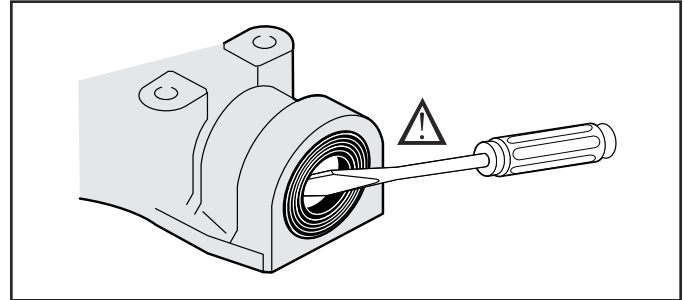

Fig. 19, Axle Seal Removal
1. After the Differential Gear Assembly and Axles have been removed, take out the (2) Axle Seals at each end of the Upper Case. (Fig. 19)